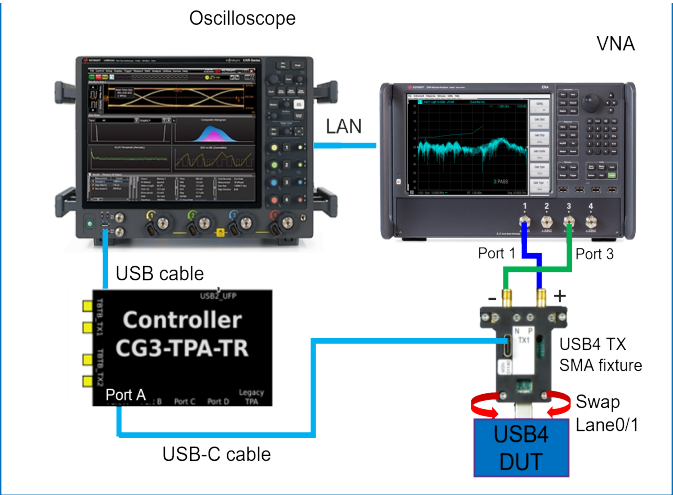

Figure 115 Tx Return loss test setup with Tx SMA test fixture
- 1 For the physical connections between the DUT & the Oscilloscope, see the connection diagrams in Figure 115 and Figure 116.